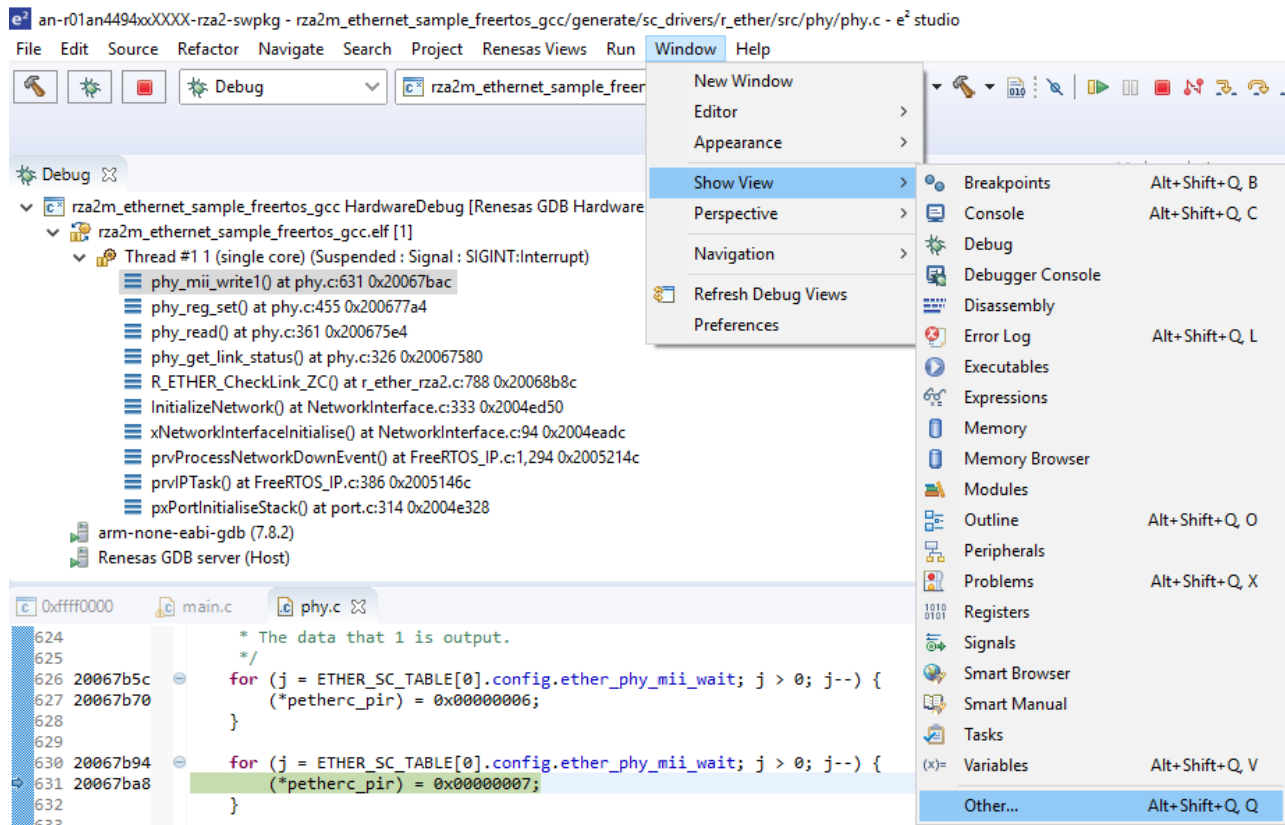

Figure 5-7 Launching FreeRTOS awareness function, step 4
4. Select “Window” menu – “Show view” – “Other”. This is shown in Figure 5-7.